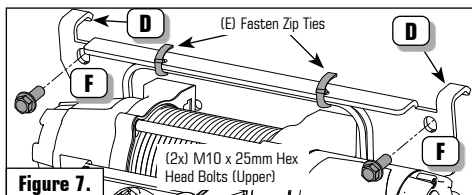

Figure 7.
7. Secure the mount plate to the vehicle frame by partially installing (2x) M10 x 25mm Hex Head Bolts from the provided hardware kit at locations [F]. See Figure 7. Do not fully tighten. Leave loose for adjustment.